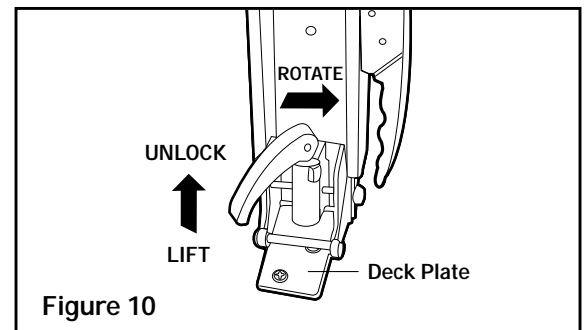

Figure 10
- Unlock the ground brackets from the deck plates using the ground bracket handle (see Figure 10).